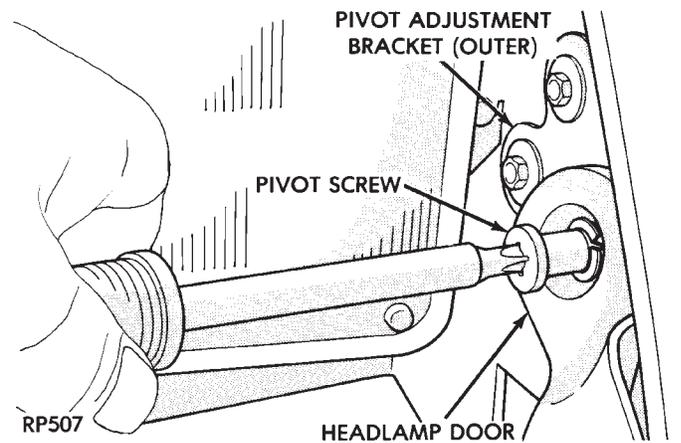

Fig. 7 Outside Pivot Screw
- (6) Remove the pivot screw from the outside pivot bracket (Fig. 7).